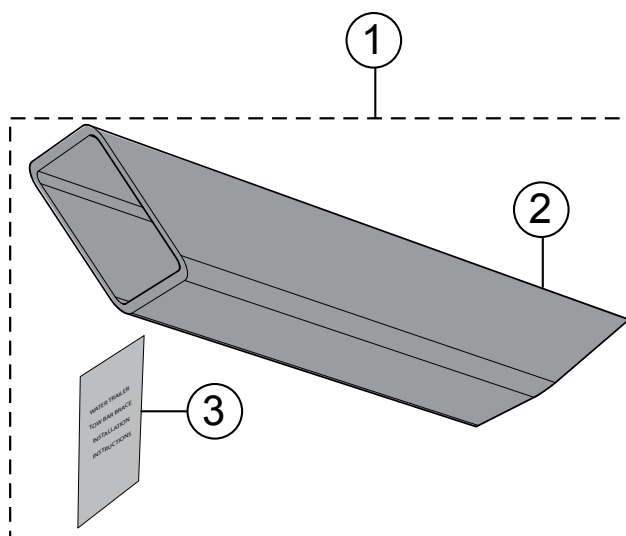

Figure 1. Brace Kit, Tow Bar
1. Check that the hitch mount brace is accounted for before attempting this installation procedure. Reference Table 1 and Figure 1.